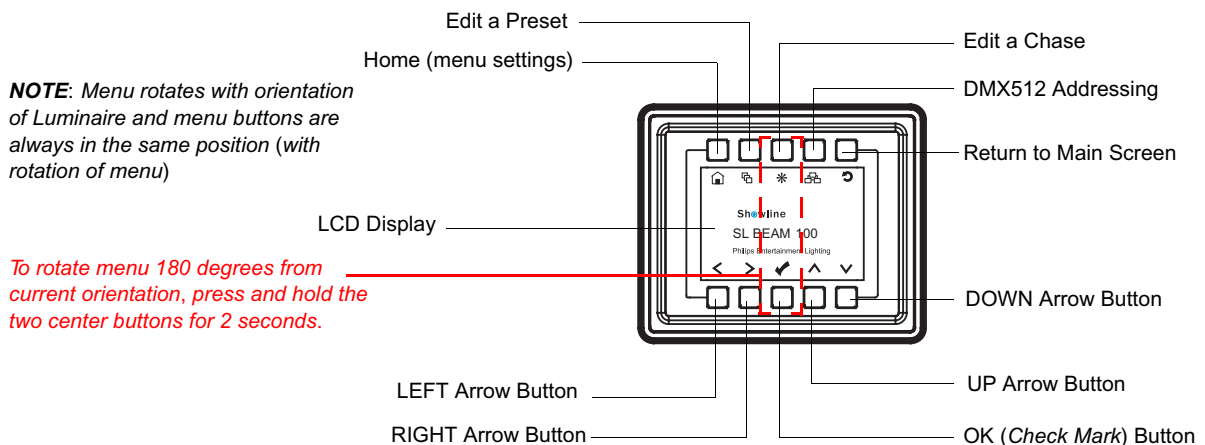

Figure 7: LCD Display and Menu System
- Step 2. Press the desired button (as shown in **Figure 7**) to access menu categories.
- Step 5. Press CHECK MARK (OK) button to accept changes.